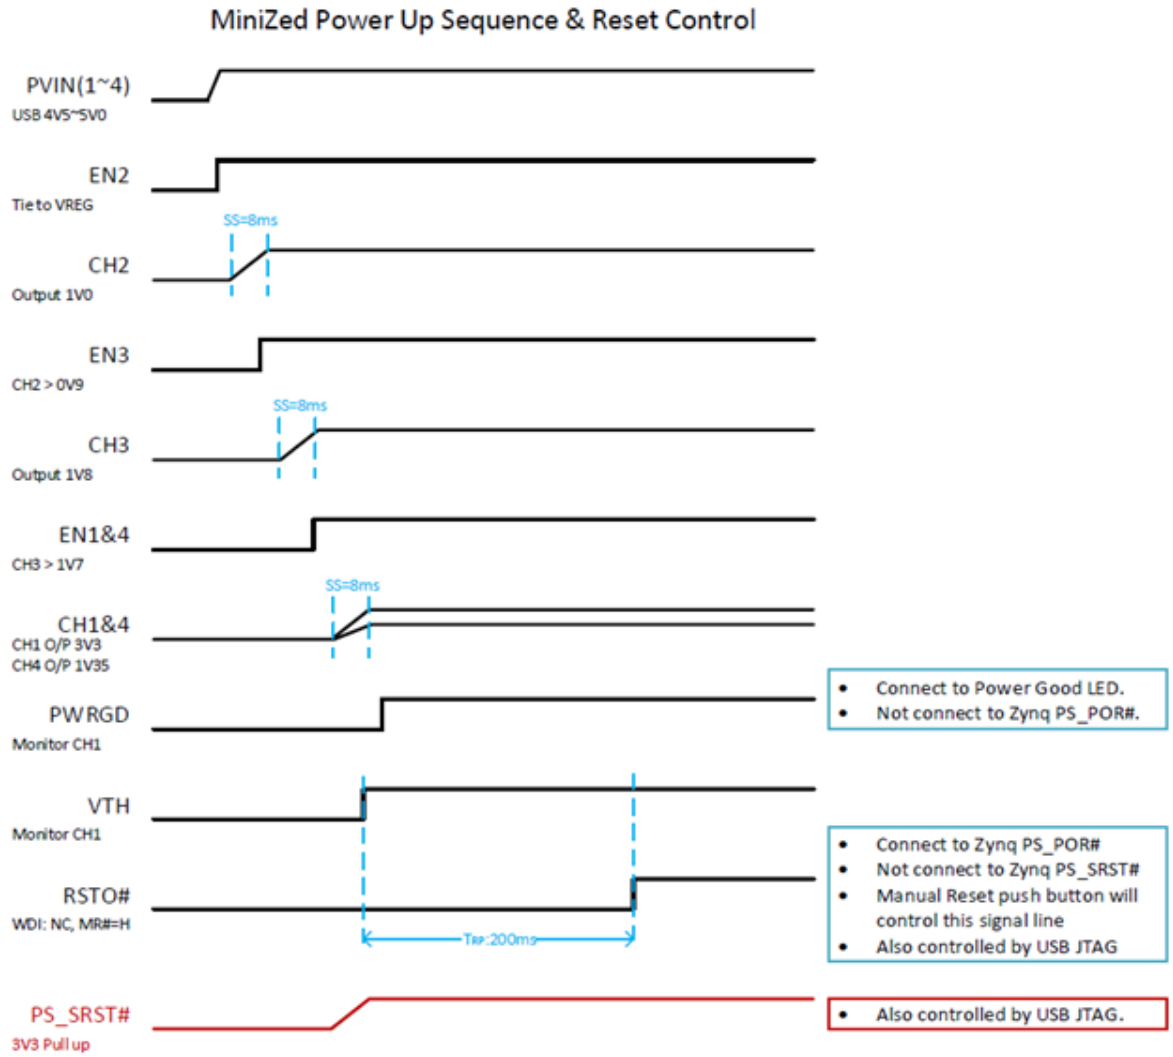

Figure 8 – Power-on and Reset Timing
- 1V → 1.8V → 1.35V/3.3V/0.68V For graphical representation see Figure 8